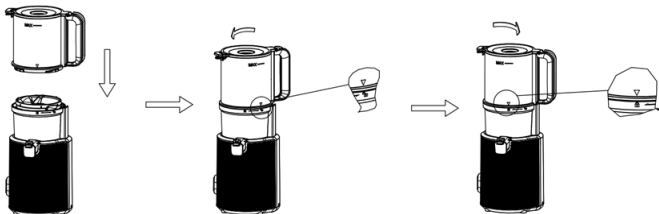

Fig.5
3. Assemble the feeding jar on the juicing jar correctly. Firstly, put the feeding jar downwards and make the symbol “▲” on the feeding jar align with the symbol “■” on the juicing jar and then rotate the feeding jar clockwise until the symbol “🔒” on the juicing jar aligns with the “▲” on the feeding jar (see Fig.5). Make sure the feeding jar is assembled in position properly otherwise the appliance will not operate. To disassemble the feeding jar from the motor unit, rotate it anticlockwise.